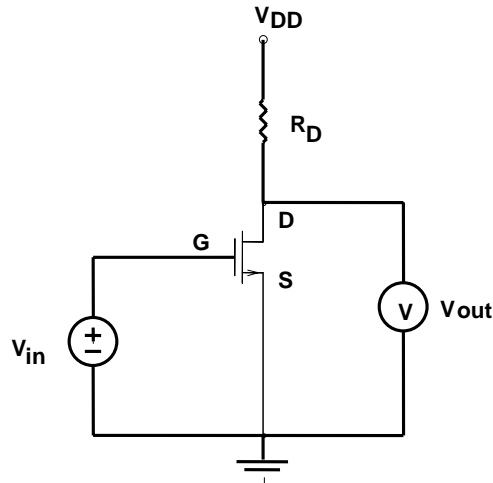
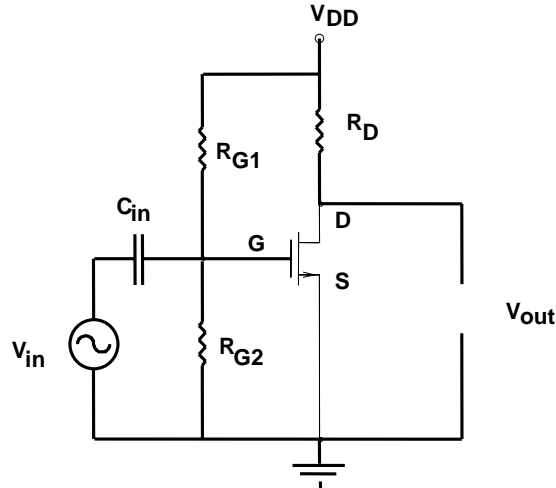
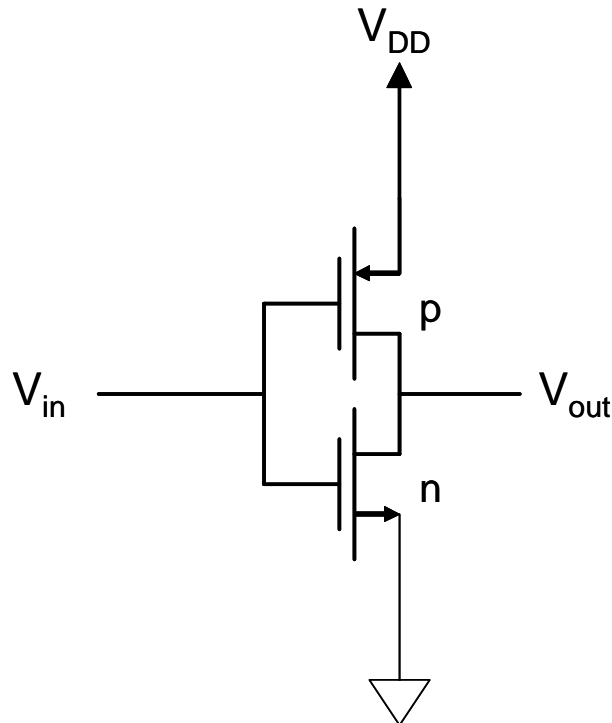

Figure 2. A MOSFET Inverter
Figure 3. A common-source (CS) MOSFET amplifier
Figure 4: The CMOS inverter
1. In Fig. 3 find R_{G1} and R_{G2} such that $V_{GS} = 2$ volts. Compute I_D and V_{DS} if $V_T = 1$ volt and $k_n'(W/L) = 0.5 \text{ mA/V}^2$ (see eqns. 4.5a,b in Sedra and Smith). Remember that this is a DC analysis, so set $v_{in} = 0$. (Note: there are many correct solutions for R_{G1} and R_{G2} !)
Build the simple MOSFET inverter shown in figure 2. You may use any of the three n-channel MOSFETs on the CD4007, but don't forget to connect pins 7 and 14 as described above!
To use the circuit in Fig. 2 as an amplifier, we need to add a circuit to the *gate* which sets the bias point (V_{GS}). One way to do this is shown in Figure 3 below:
The logic inverter in Figure 2 has one major flaw. The power dissipation is too high when the output is low. This would not be a practical logic gate in a modern integrated circuit because a large number of these gates would use a huge amount of power. The CMOS logic family significantly reduces power dissipation by replacing the drain resistance (R_D) with a p-channel MOSFET as shown in Figure 4.
- k) Assume that the two inverters (Figure 2 and Figure 4) are in the high state 50% of the time and in the low state 50% of the time for many logic applications. **Compare the average power dissipation of the two inverters, and write a few sentences on the benefit of CMOS logic.**